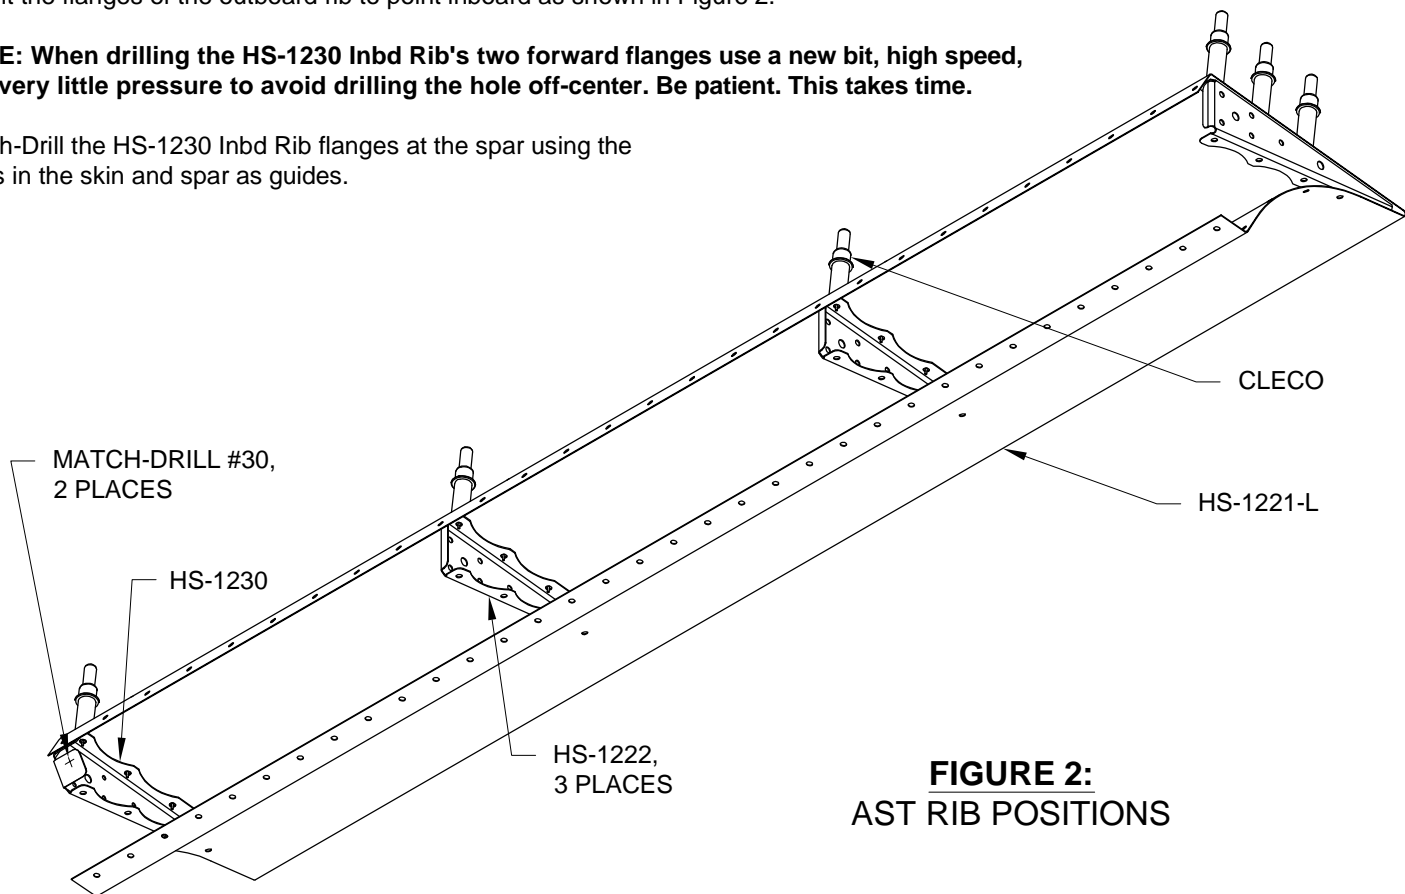

FIGURE 2:
Step 3: Cleco the top and bottom flanges of the four ribs and the HS-1219-L AST Spar (not shown) to the inside of the HS-1221-L AST Skin. See Page 08-03, Step 4 instructions for positioning the spar. Orient the flanges of the three inboard ribs to point outboard. Orient the flanges of the outboard rib to point inboard as shown in Figure 2.